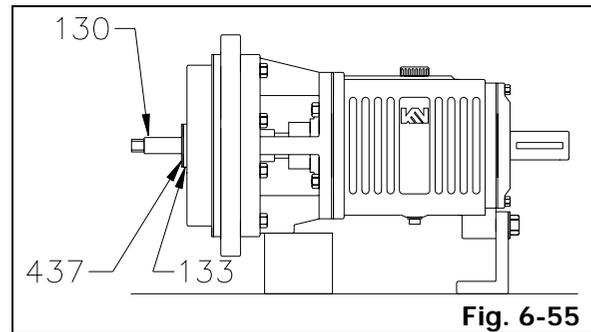

Fig. 6-55
6. Install shaft sleeve (133) assembly, with rotary portion of mechanical seal (200), carefully onto shaft (130) until the lapped surfaces of the mechanical seal (200) are seated on each others. Install shaft sleeve gasket (437) onto shaft (130) until shaft
sleeve gasket (437) is fully seated on shaft sleeve (133) (Fig. 6-55).